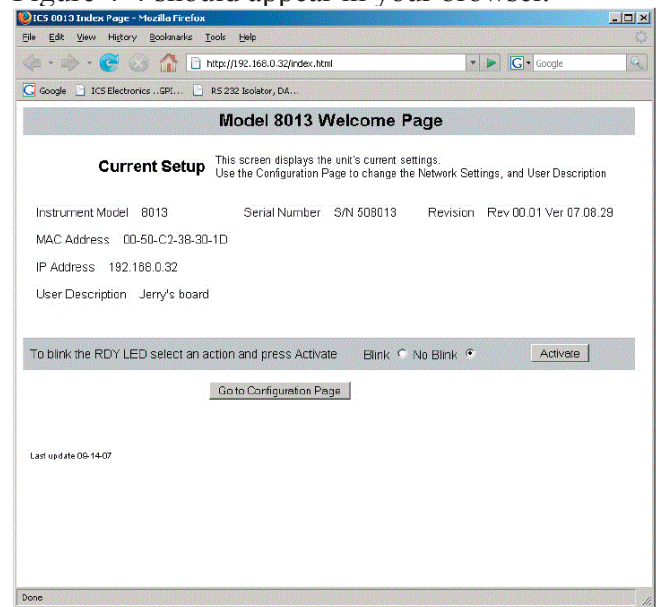

Figure 4-3 8003 Welcome Page
5. A Welcome Page similar to the one shown Figure 4-3 should appear in your browser.